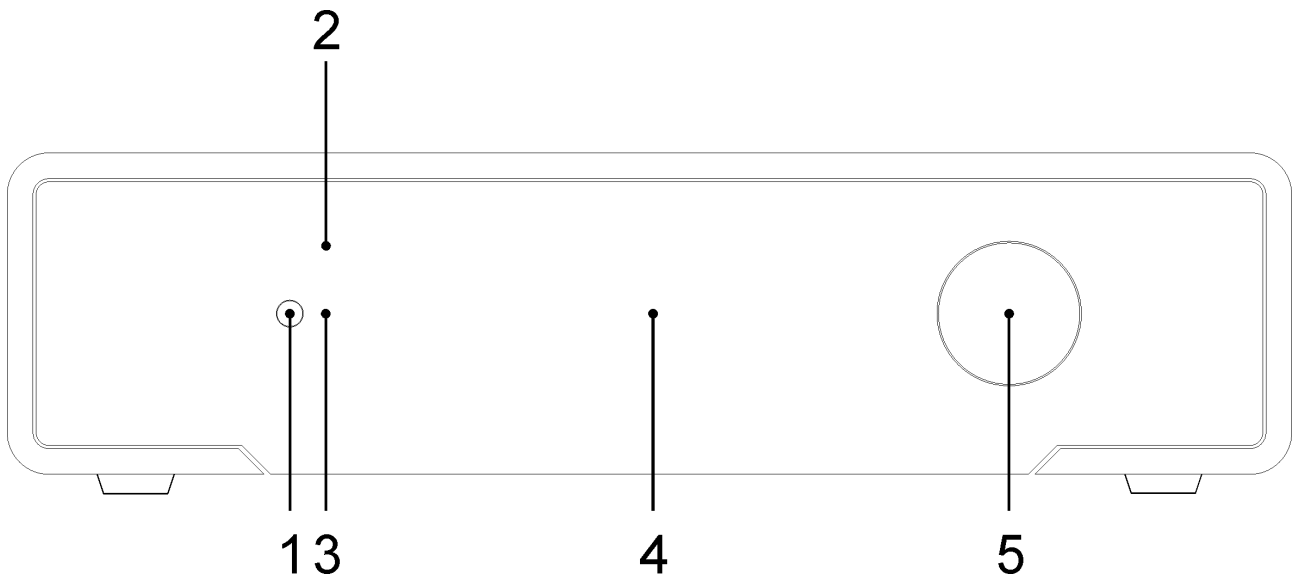

Figure 1
Should the user change his/her mind and keep the current source, it is sufficient to push the button to the left of the front panel (item 1 Fig. 1) or avoid doing anything else: After a few seconds the NASH will automatically return in its “idle” status without changing the source setting.
The front panel LED of the NASH (Fig.1, 2) can be set to operate in three different modes, at user’s convenience:
1. Disable: when power is applied the NASH enters standby. The user may activate the NASH by pushing the front panel button (Fig.1, 1), sending an “on” command by the IR remote control or sending an “on” command by the Android app;